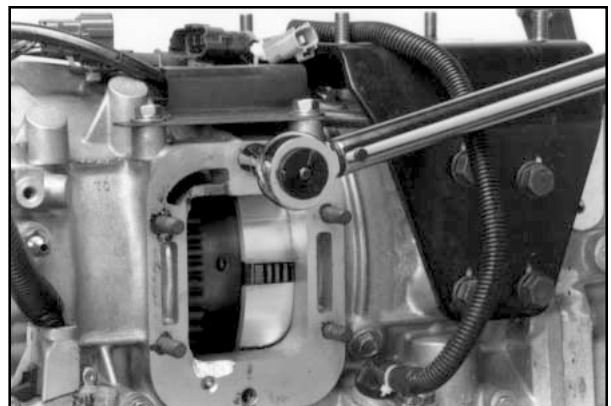

Figure 8
9. Tighten the studs securely and torque to 17 - 19 ft. lbs. or 2.35 - 2.63 kg. meters (**Figure 8**). **CAUTION:** Overtightening of the studs may damage the stud and or transmission threads. Do not force the shoulder of the stud below the surface of the bolthole.